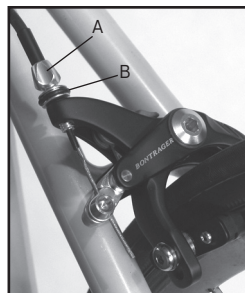

Figure 11 Cable adjustment parts
6. Turn the barrel adjuster (Figure 11) out one or two turns. Turn the barrel adjuster locknut to hold the adjustment.